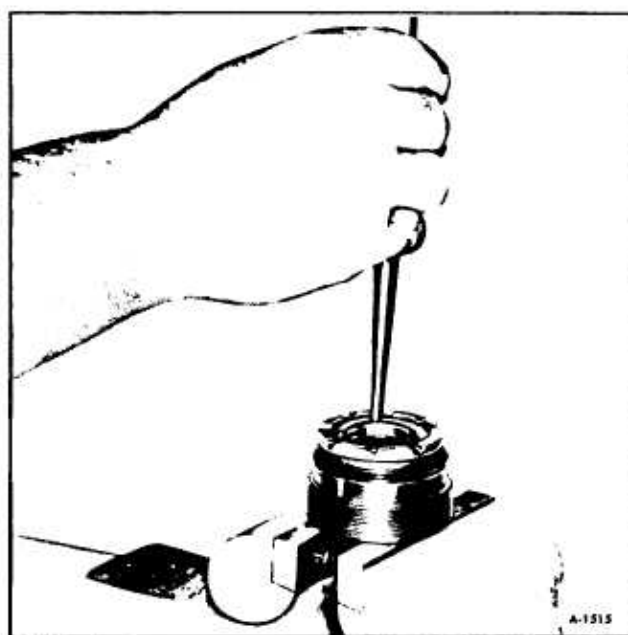

Figure 33—Install Retainer
5. Install bearing retainer on the adjuster plug by carefully tapping on the flat surface of the retainer (figure 33).